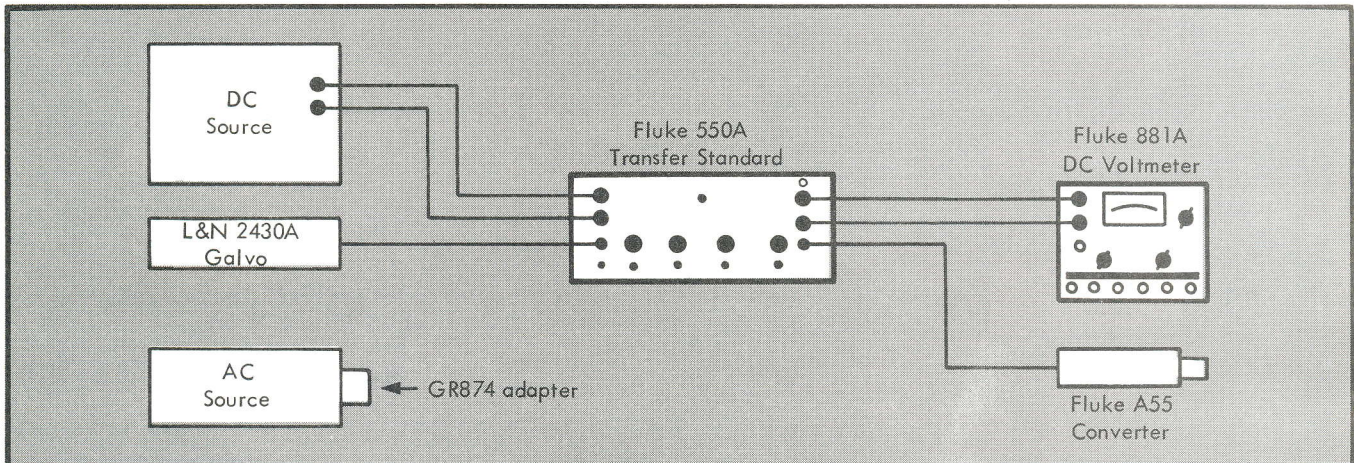

Figure 2-4. VOLTAGE MEASURING SETUP DIAGRAM
- a. Connect the equipment as shown in Figure 2-4. The dc source must be floating. If the approximate value of the ac voltage is unknown, measure the ac with a high frequency voltmeter. Always use a thermal converter having a voltage rating equal to or greater than the rms value of the ac voltage to be measured.